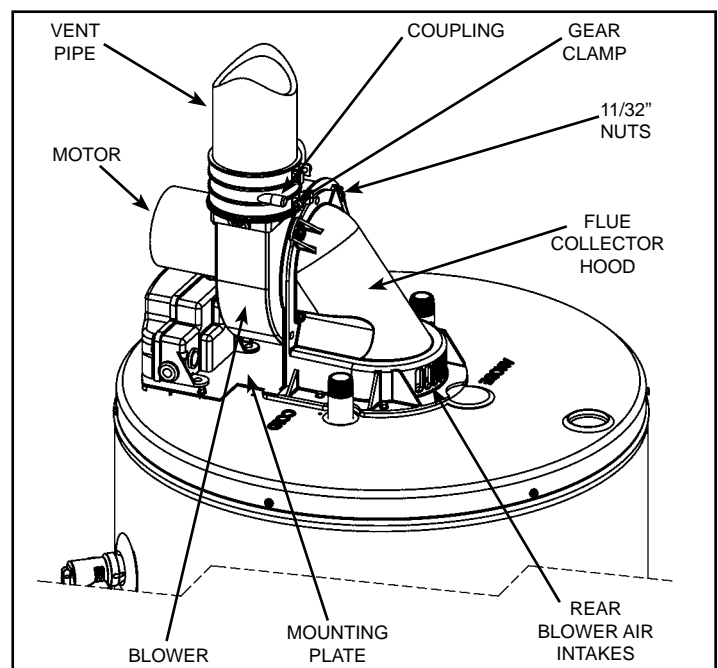

Figure 48
- Inspect the flue collector area for signs of corrosion (see Figure 48). This can be an indication of contaminated air, a wet environment, poor burner set up, or high levels of condensation occurring at the flue collector. Determine and correct any poor operating conditions.